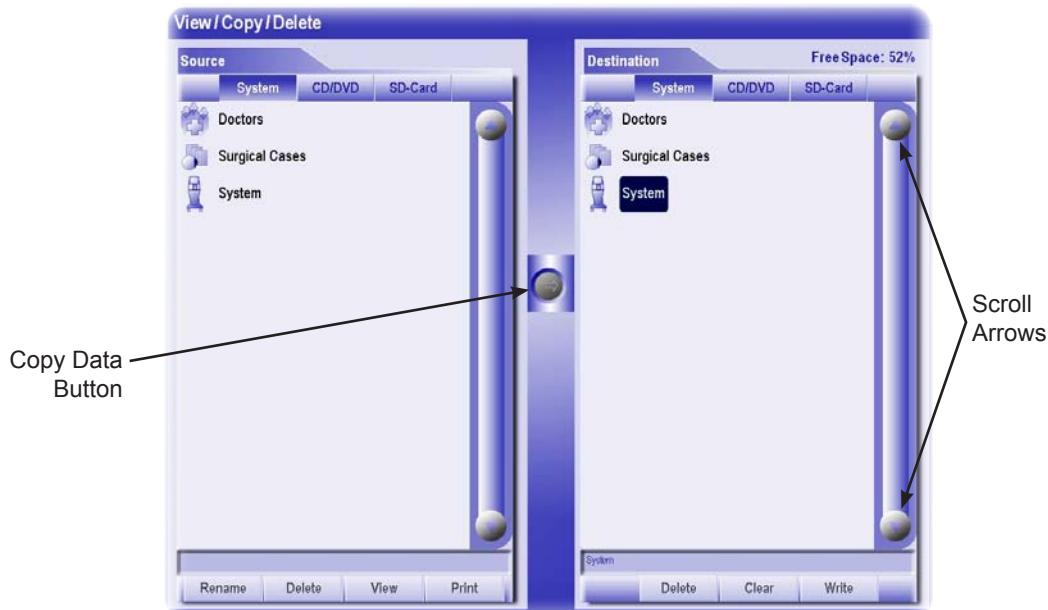

Figure 2-24 View/Copy/Delete Screen (Options\Settings-System\Info)
The View/Copy/Delete screen shown in Figure 2-24 allows the user to perform data management related tasks including:
- xx% Free - Percent of total space available for storage. In Figure 2-24, the display indicates that 52% of the system data storage media is available for additional data.